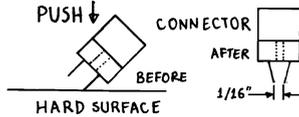

Figure 1.6. How to Bend the Leads of a Connector
1. Form the connector tabs so that their spacing is about the thickness of the board (1/16"). This is done by pressing the connector against a hard flat surface as shown in Fig. 1.6, so that the tabs bend uniformly.